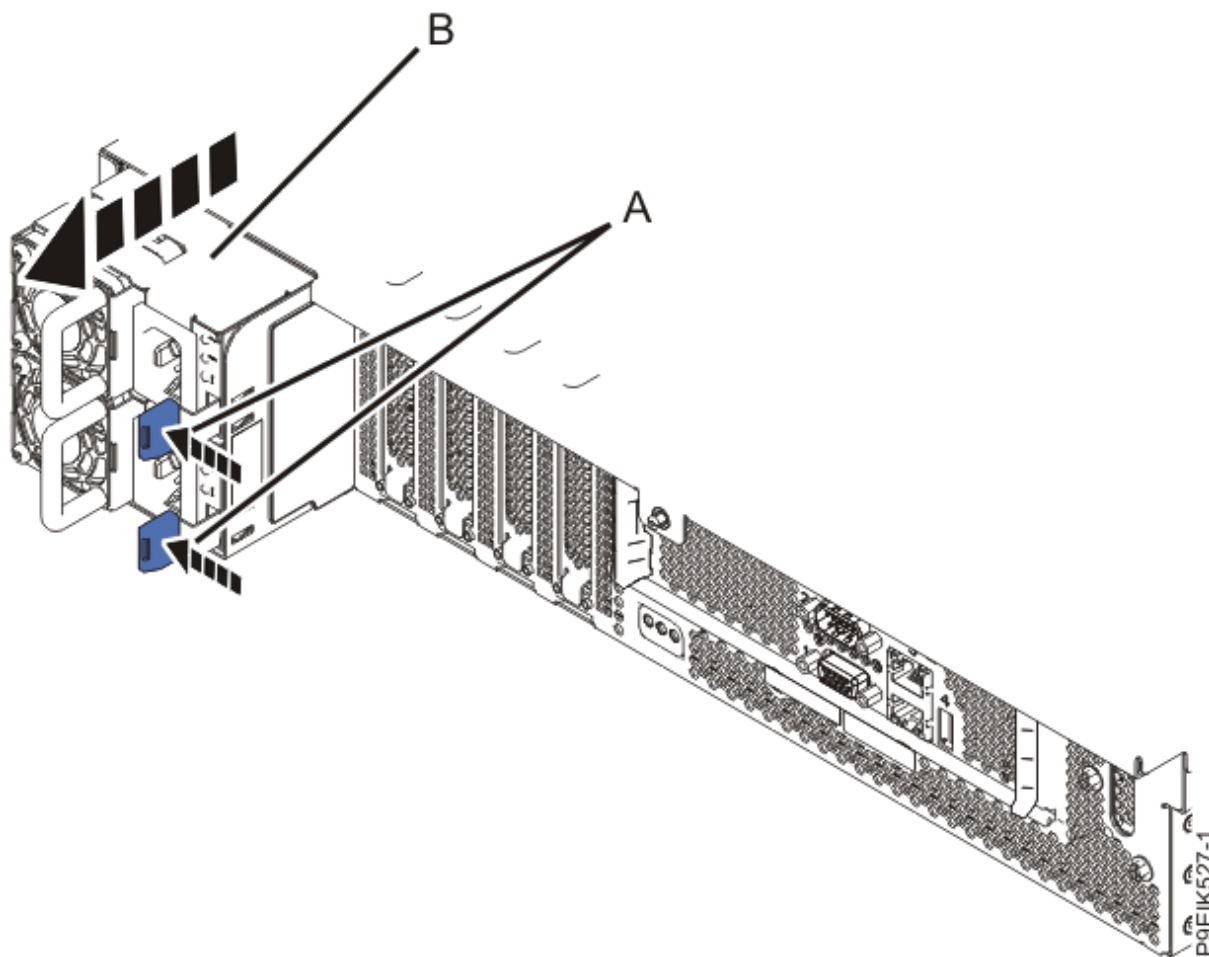

Figure 96. Removing the power supplies from the system
9. Remove the power supplies from the system as shown in Figure 96 on page 121.